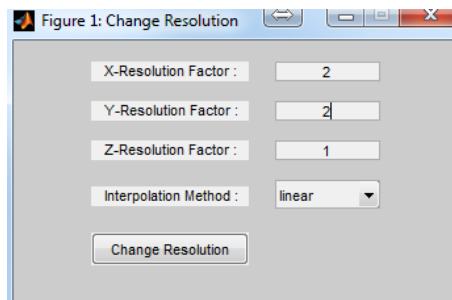

Figure 6.14: Interpolation Window. An example is shown for doubling resolution in x and y direction by using linear interpolation.
-  : Resample current matrix by using chosen interpolation method (Figure 6.14). The user can specify sampling factors in x, y and z direction for 3D matrix.